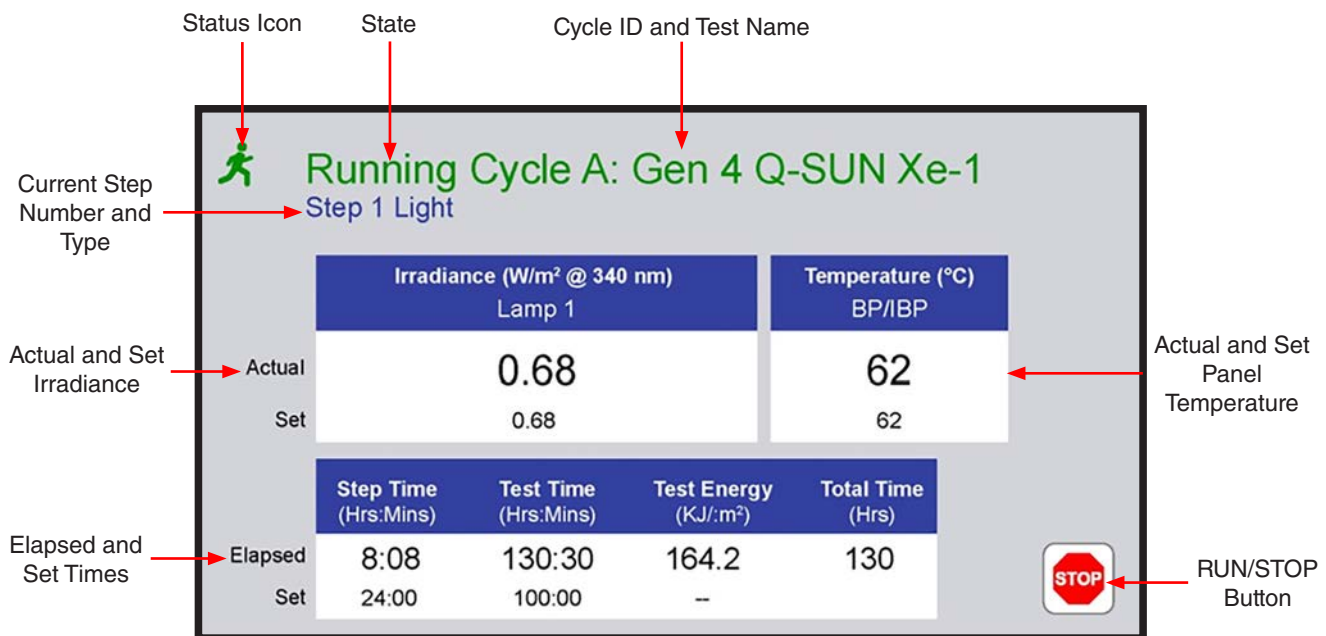

Figure 11.2a: Status screen components.
- The Status Screen (Figure 11.2a) displays: